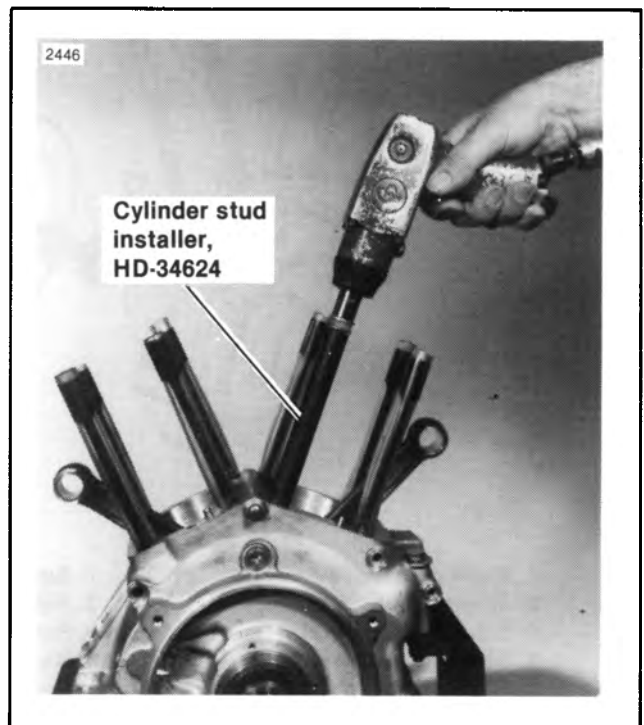

Figure 3-46. Installing Cylinder Studs — Early 1985
- See Figure 3-46. Apply a film of engine oil to threads of stud and drive stud in crankcase hole with the CYLINDER STUD INSTALLER, Part No. HD-34624 and an air or electric impact wrench. Do not use a ratchet or breaker bar because they will bend the stud.
4. See Figure 3-46. Use an air or electric impact wrench and install the stud threads to the depth of the painted line. Do not use a ratchet or breaker bar because they will bend the stud.